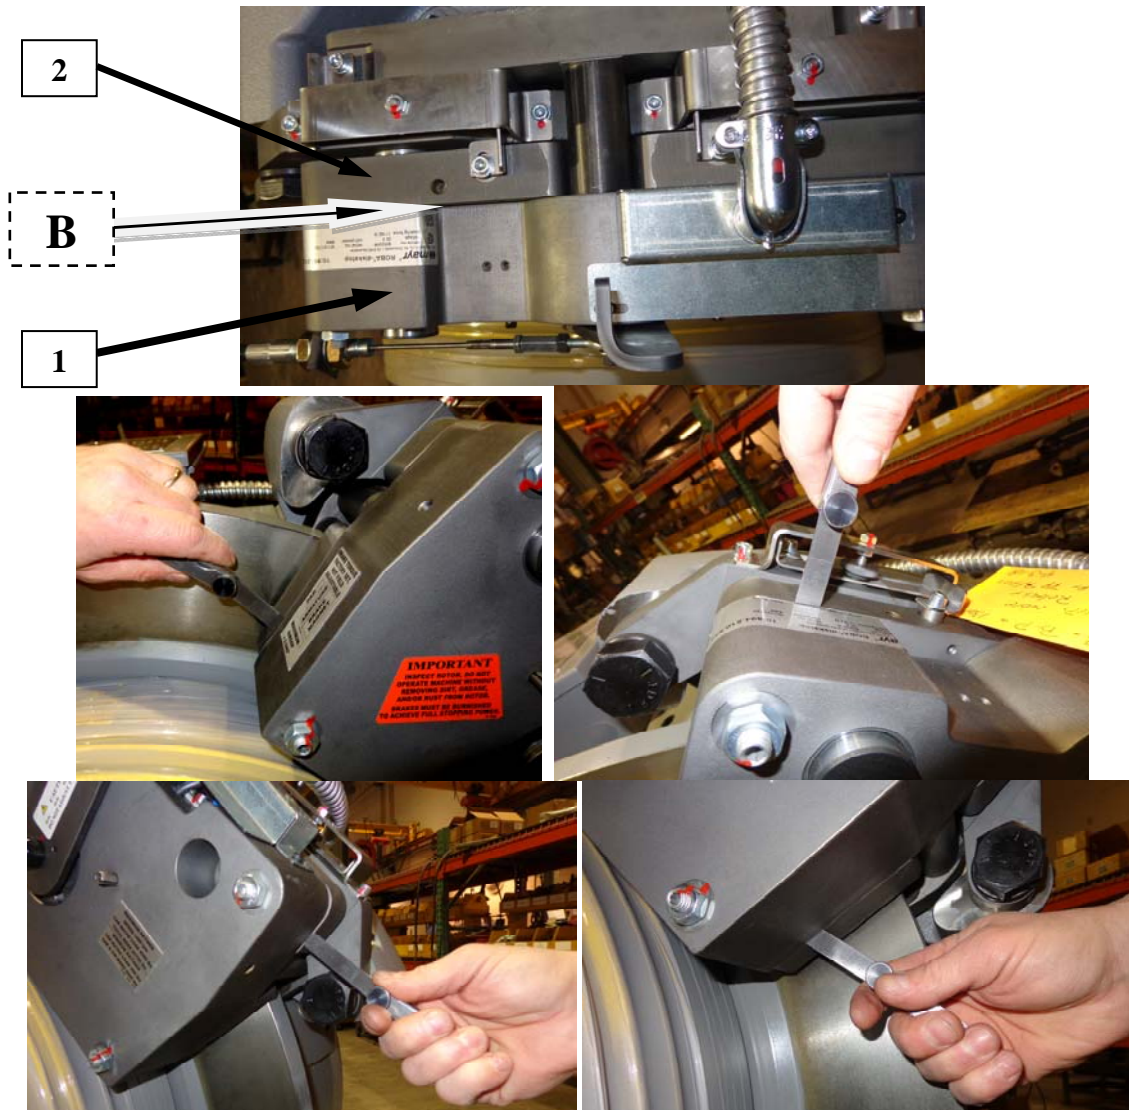

Figure 22
- In new condition, air gap should be **equal** all the way around. See Figures 22.
- Check Air Gap at “B” between Coil Carrier Assembly “1” and Armature “2”. The approximate 0.020 inch gap should be **equal** all the way around. (Figure 22)